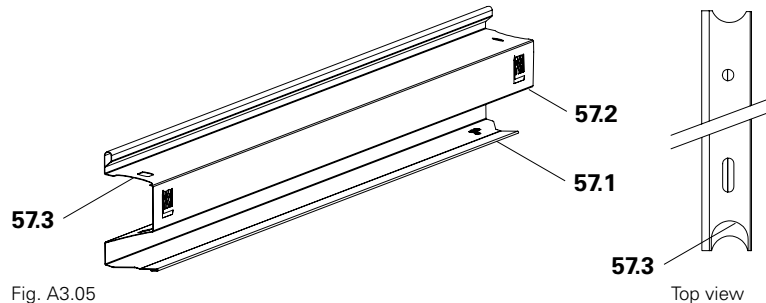

Fig. A3.05
3. Insert Toe Board UPY (**57**) from the outside-left first of all. The larger tube cut-out (**57.3**) is on the left. (Fig. A3.05)